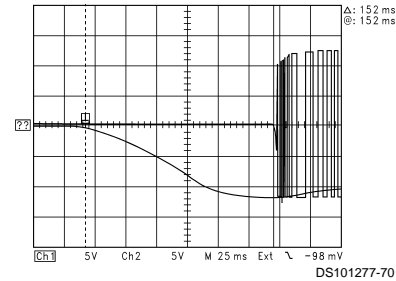

FIGURE 3. Startup Timing Diagram
**Start Up Sequence and Self-Diagnostic Timing:** The LM4651 has an internal soft start feature (see Figure 3) that ensures reliable and consistent start-up while minimizing turn-on thumps or pops. During the start-up cycle the system is in standby mode. This start-up time is controlled externally by adjusting the capacitance ( $C_{START}$ ) value connected to the START pin. The start-up time can be controlled by the capacitor value connected to the START pin given by Equation (1) or (2):